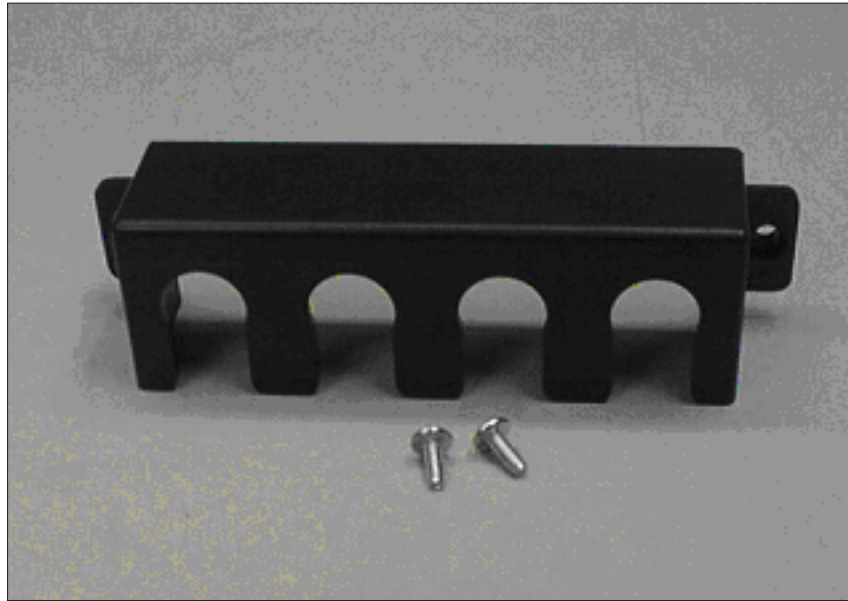

Figure 17. 2145 UPS-1U power cable-retention bracket hardware
2. Remove the bracket and the two screws (shown in Figure 17 on page 23) from the packaging.